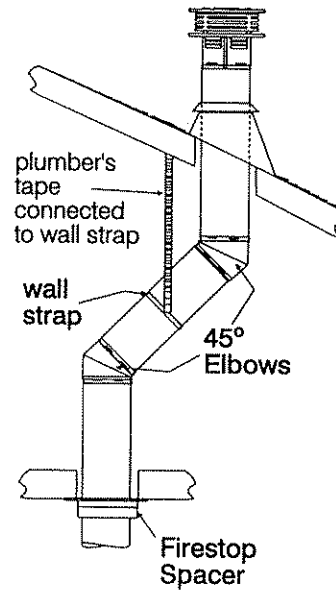

Fig. 2
- 2) Set the gas appliance in its desired location. Drop a plumb bob down from the ceiling to the position of the appliance flue exit, and mark the location where the vent will penetrate the ceiling. Drill a small hole at his point. Next, drop a plumb bob from the roof to the hole previously drilled in the ceiling, and mark the spot where the vent will penetrate the roof. Determine if ceiling joists, roof rafters or other framing will obstruct the venting system. You may wish to relocate the appliance or to offset, as shown in Fig. 2 to avoid cutting load bearing members.
Note: If an offset is necessary in the attic to avoid obstructions, it is important to support the vent pipe every 3 feet, to avoid excessive stress on the elbows, and possible separation. Wall straps are available for this purpose (Fig 2).